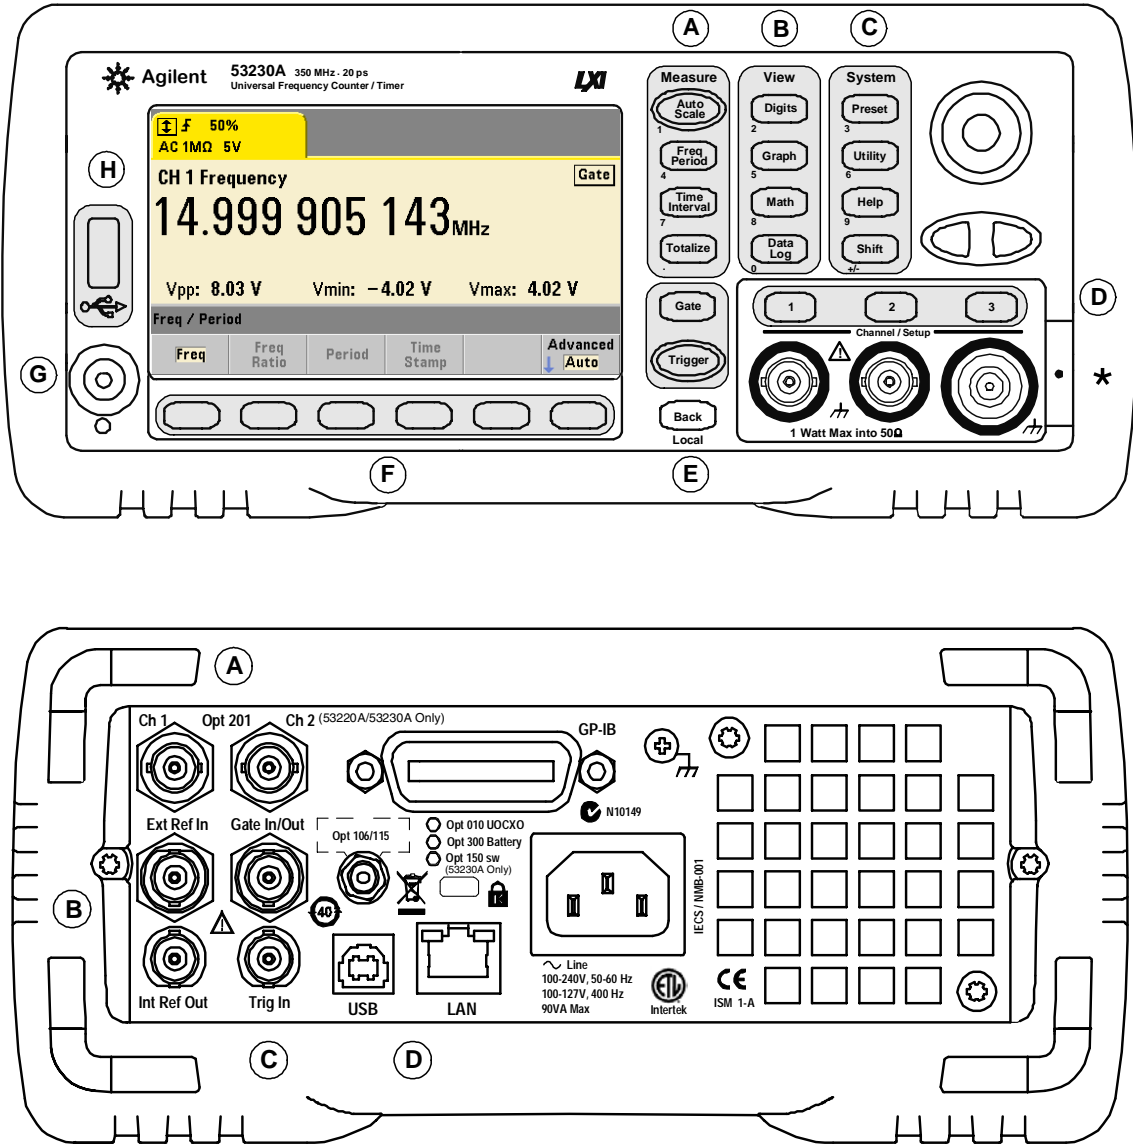

Figure 1-1. The 53220A/53230A Universal Frequency Counter/Timer.
Figure 1-1 shows the front and rear panels of the Agilent 53230A 350 MHz Universal Frequency Counter/Timer. The 53220A and the 53230A are dimensionally identical and available with the same product options - with the exception of Pulse Measurement Firmware Option 150 available with the 53230A only.
D. Channel Keys - select the input channel and displays the soft key menu used to configure the input signal path. Note that Figure 1-1 includes Channel 3 Option 106 / 115. Signal path configuration is covered in **Chapter 4**.
The 53230A rear panel shown in Figure 1-1 includes product Option 201 (parallel rear panel inputs) and GPIB interface. The rear panel terminals are briefly described below.